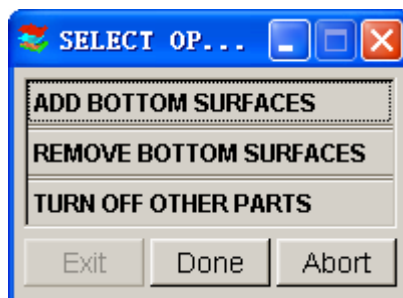
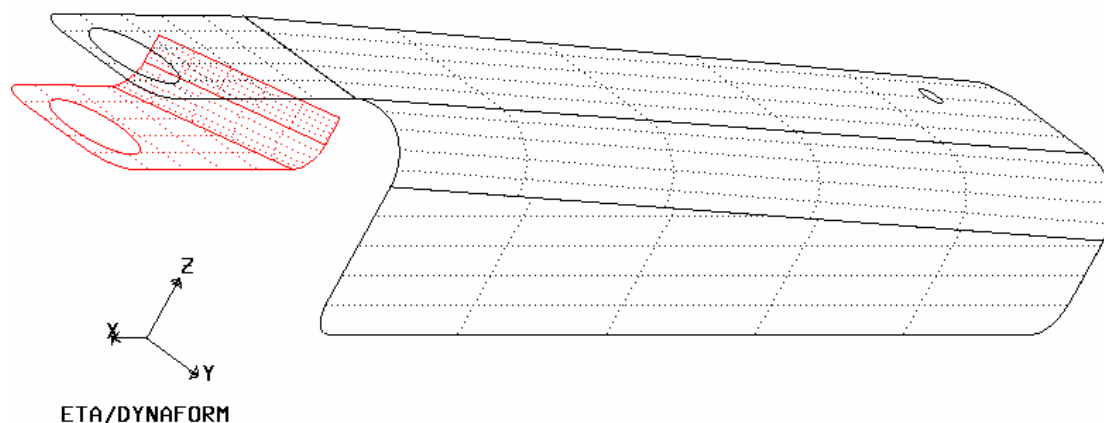
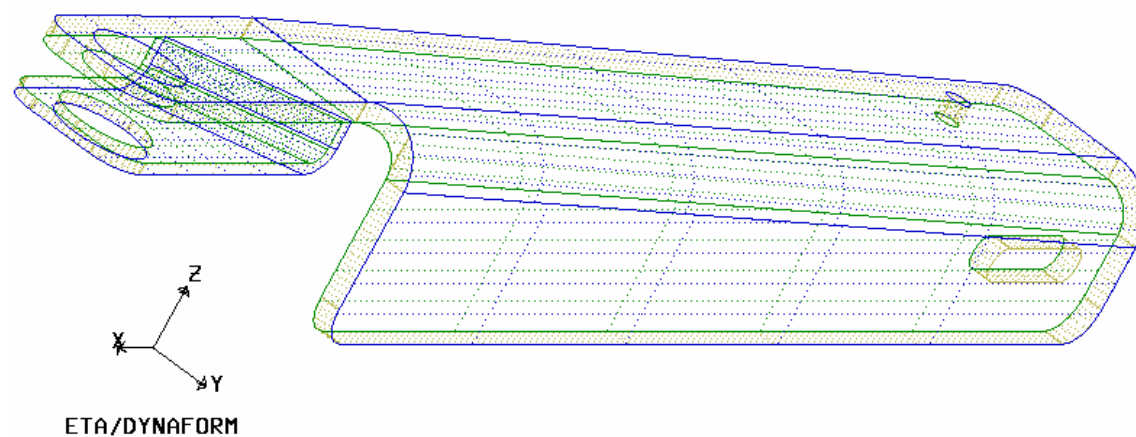

Figure 5.2.16 Group Bottom Surfaces Options
Figure 5.2.17 Group Bottom Surfaces
Figure 5.2.18 Result of Grouping
7. Click GROUP BOTTOM SURFACE to group the bottom surfaces of the part (Figure 5.2.15). At this point, Figure 5.2.16 and Figure 5.2.17 are displayed.
8. The program groups the surfaces for the bottom face. If the result is not perfect, use **ADD BOTTOM SURFACES** or **REMOVE BOTTOM SURFACES** to adjust the result. In this instance, it is necessary to add three surfaces to the bottom surface group. The result is shown in Figure 5.2.17.
9. Click **DONE** on Figure 5.2.16 to finish grouping. The result is seen in Figure 5.2.18.